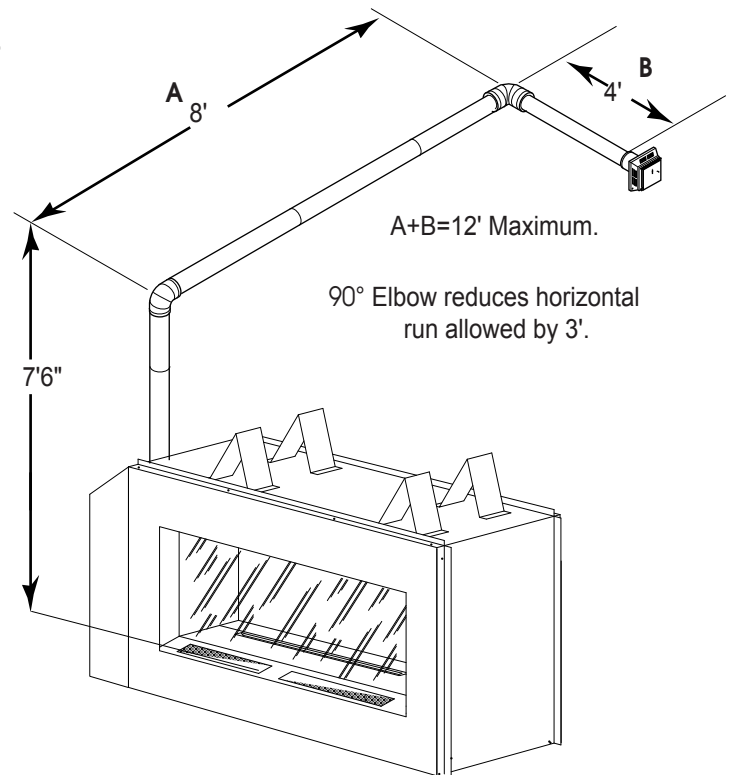

Figure 20 - Maximum Vent Run with Elbows
- If a 90° elbow is used in the horizontal vent run (level height maintained) the horizontal vent length is reduced by 36" (914 mm) (Fig. 20 A and B) This does not apply if the 90° elbows are used to increase or redirect a vertical rise. See Figure 19.
In Figure 20, Dimension A plus B must not be greater than 12' (3.66m).